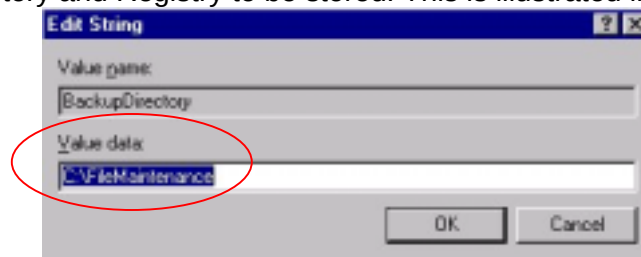

Figure 1-4 Location of Backups
5. In the **Value Data** text box specify the location of where you want the backup of the cpi directory and Registry to be stored. This is illustrated in Figure 1-4: